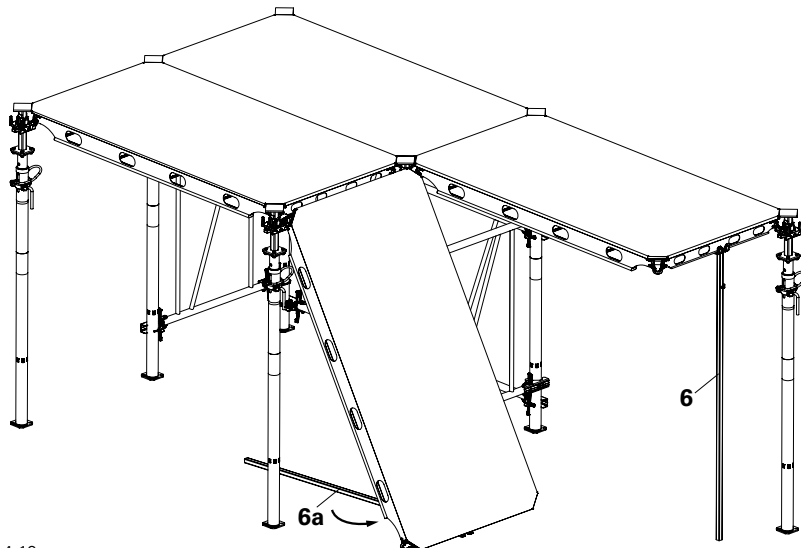

Fig. A4.10
4. Hook and swing the next panel (as shown in step 1 and 2) using an additional shuttering aid (6a). (Fig. A4.10)